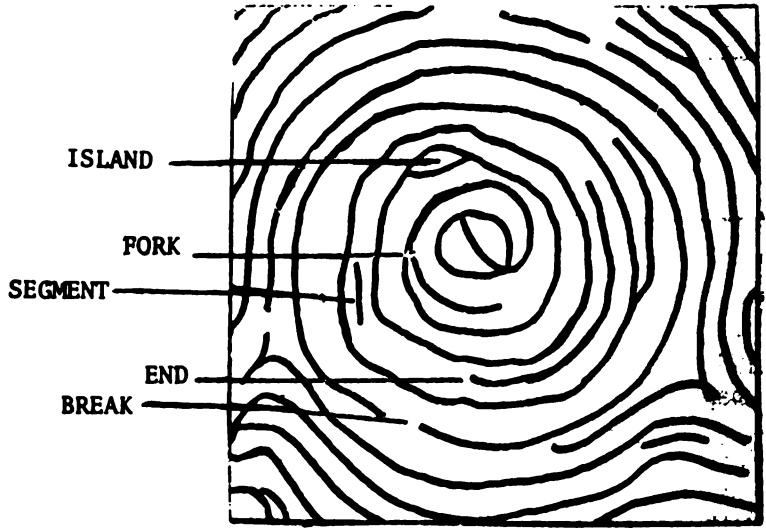

Figure 1. Faults.
2. Faults are peculiar formations occurring on ridges within the pattern area which tend to interrupt the continuity of impressions and are the distinguishing features of fingerprints. Faults appear in only five forms as shown in figure 1.